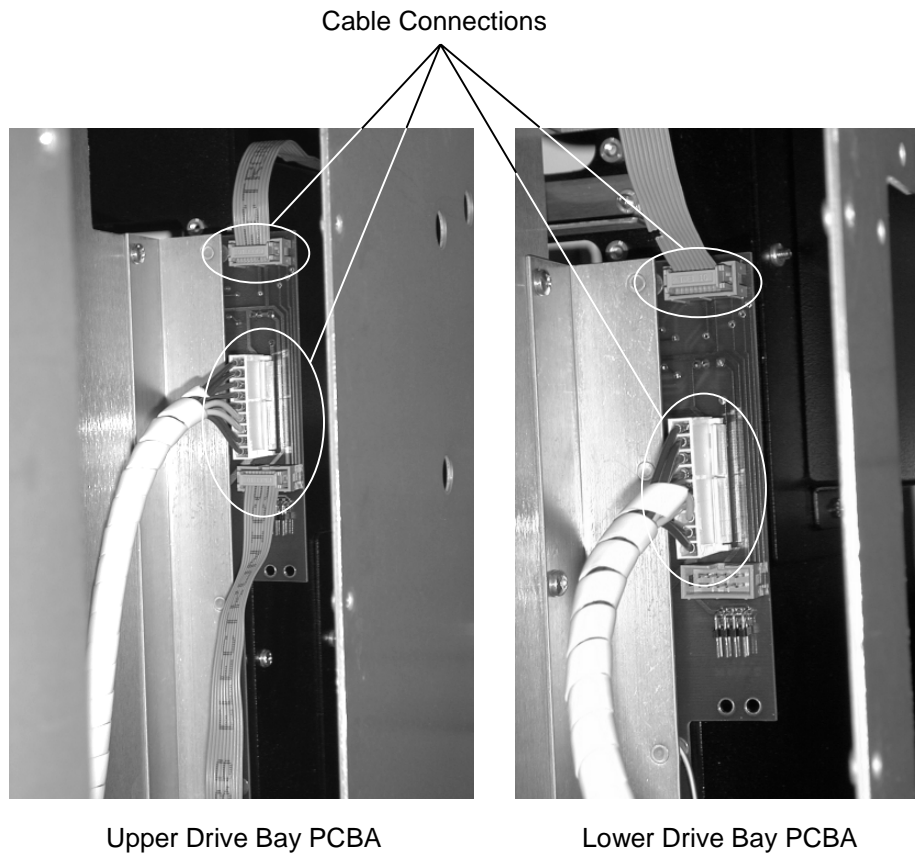

Figure 7-60 58xxx, 68xxx and 88xxx Models Right Side Drive Bay PCBAs
7. Disconnect all cables from the Drive Bay PCBA being removed (Figure 7-60).
11. Reconnect all cables to the Drive Bay PCBA (Figure 7-60).